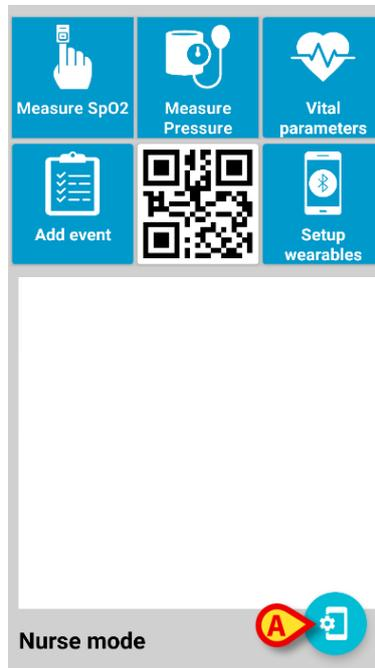
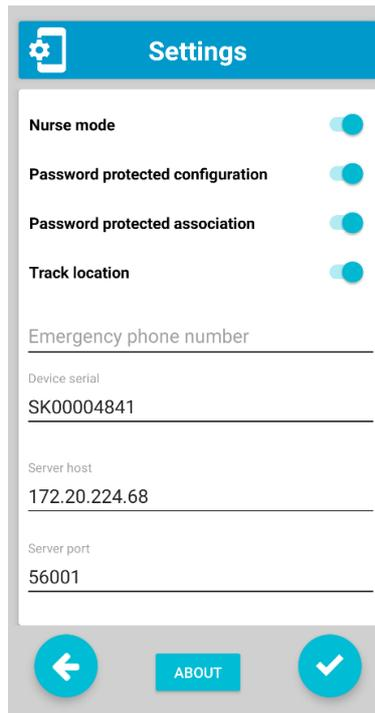

Fig 1 – Main View
Fig 2
- Press the “Settings” button (Fig 1 **A**) to open the settings page (Fig 2) and configure the application.